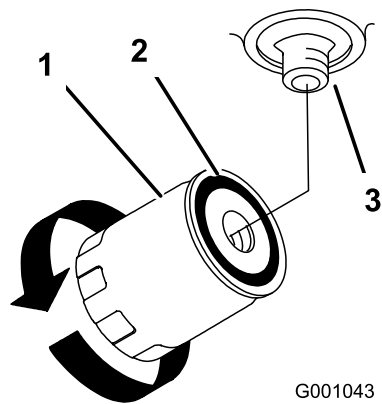

Figure 72
7. Apply a thin coat to the rubber gasket on the replacement filter (Figure 72).
adapter, then tighten the filter an additional 1/2 turn (Figure 72).